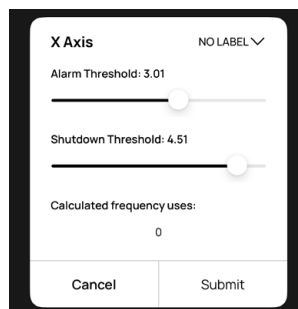

Figure 5
- **Settings**  button: Tap to open the data logging settings popup. See *Figure 5*.
To set alarm and shutdown thresholds (see *Figure 5*):